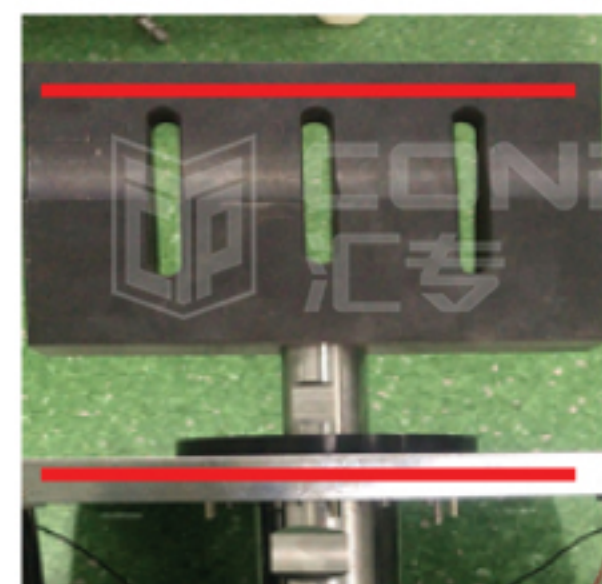

Figure 12
(10) Adjust the welding head and the connecting plate to ensure that both faces are completely parallel to each other. (As shown by the two red lines in Figure 12).
- (1) Clean up the stud, the threaded hole and the mating face to ensure no dirt on the surface; then, apply a small amount ($\leq 1g$) of grease or industrial vaseline to the mating face.
- (2) Adjust the torque wrench to 175 N.m to lock the welding head tight.
- (3) Adjust the welding head and the side of the connecting plate to ensure that the two faces are parallel (as shown in Figure 12).